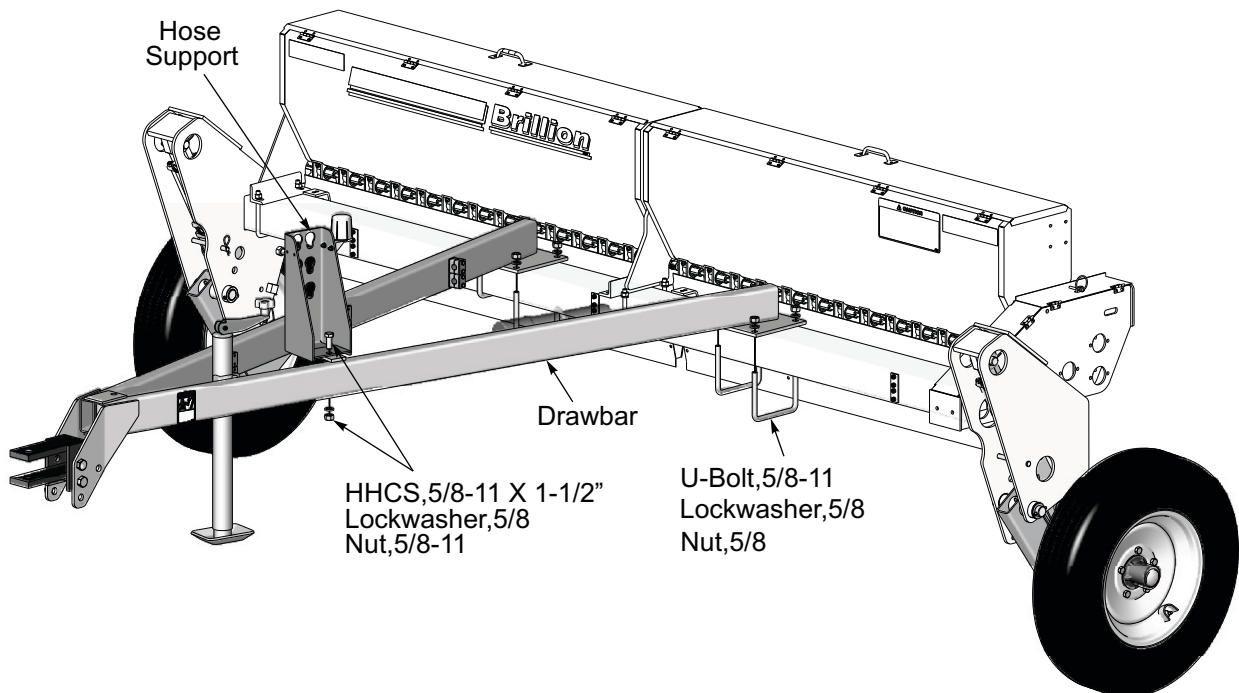

Figure 2-3: Pull Seeder Drawbar Installation
2. Position the drawbar on center of frame and secure with four 5/8-11 x 6-11/16" x 5-1/2" U-bolts, Lockwashers, and Nuts from bag in seedbox. **See Figure 2-3.**